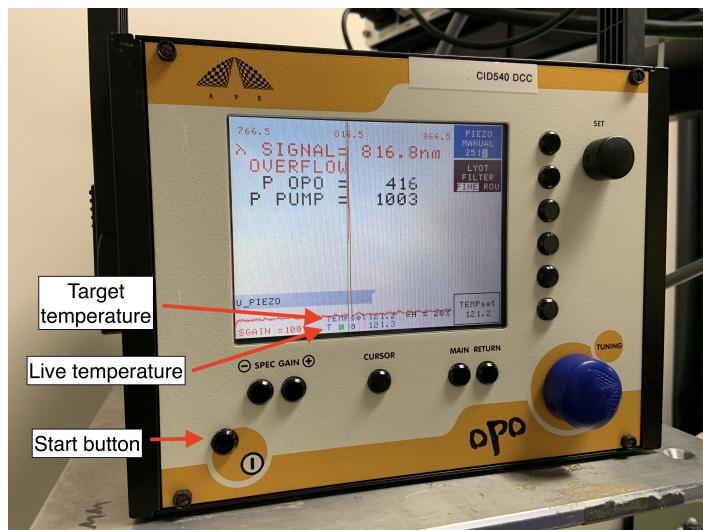

FIGURE 4 – Front of the OPO monitor.
5. At the front of the OPO monitor, keep your finger on the *START* button until the screen turns on (Fig. 4)
6. The live temperature should then start to go up until it reaches the value of the target temperature (Fig. 4). This can take up to 30 minutes to be stable.